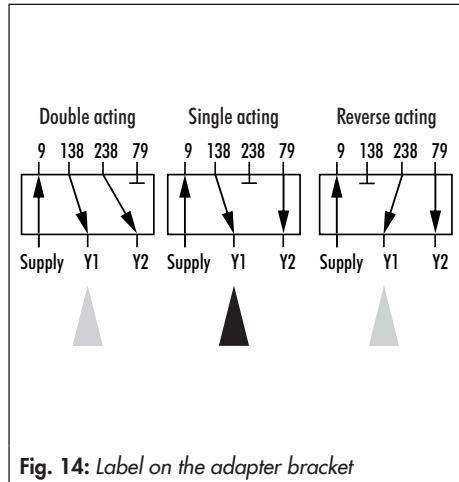

Fig. 14: Label on the adapter bracket
3. Fasten the turnboard (7) to the adapter bracket (6). Select the required switching function from Fig. 14 by turning the turnboard.